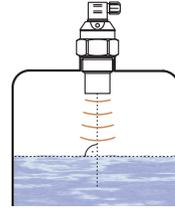

Fig. 1: Recommended installation in the tank
- Install the level meter in a **vertical position** into the upper lid of the tank (vessel) or reservoir using a lug, a fastening nut or a flange in such a way that the LU axis is perpendicular to the level of the measured liquid (Fig. 1).